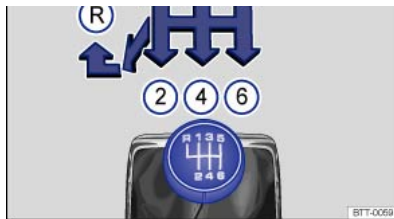

Fig. 122 Gear shift pattern of a 6-speed manual gearbox.
The positions of the individual driving gears are shown on the gearshift lever ⇒ Fig. 122.
- Push the gearshift lever fully to the left and then to the front in the reverse gear position ⇒ Fig. 122@.